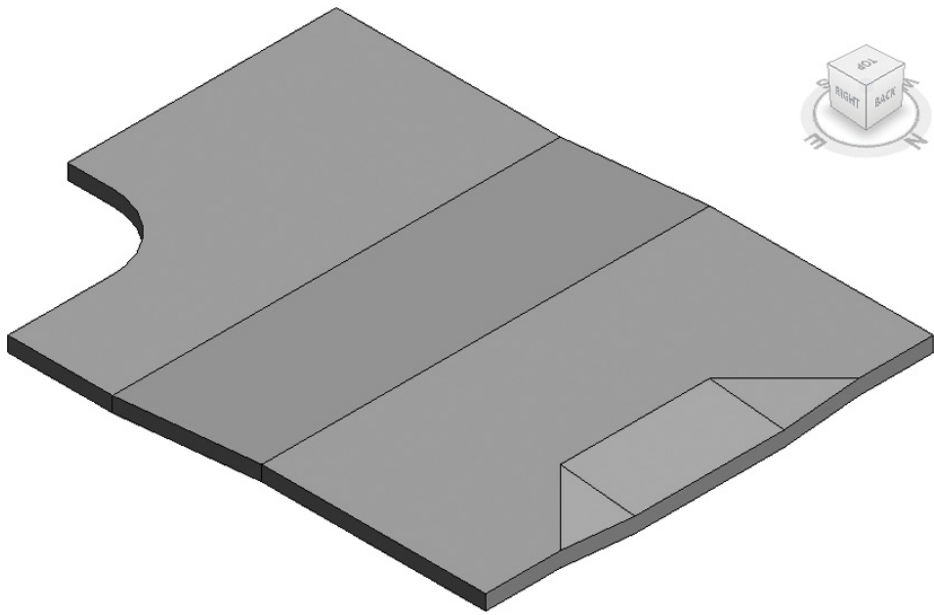

FIGURE 3.10 The finished depression
5. Do the same for the shape handle to the right. When you're done, the depressed area resembles Figure 3.10.